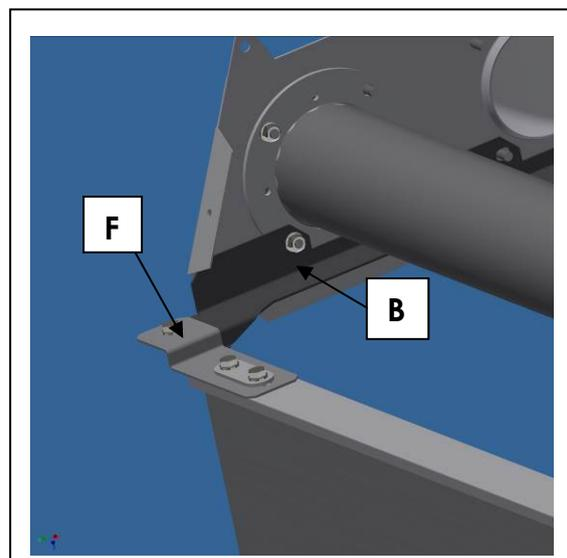

Fig. 58: Mounting of reflector elongation on turn around box with safety lock
3. If required fasten mounting bracket **B** to turn around box by losing 4 lower hex. nuts M8, placing mounting bracket on tube flanges and fastening hex. Nuts [Fig. 58].
7. If using mounting bracket **B** mount safety lock **F** [Fig. 58].